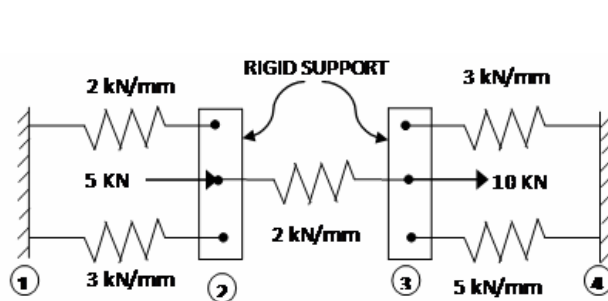

FIG. 1
- (b) For a spring assemblage shown in fig. 1, calculate (i) displacement at node 2 & 3 (ii) reaction at node 1 & 4 (iii) forces in each spring. **07**